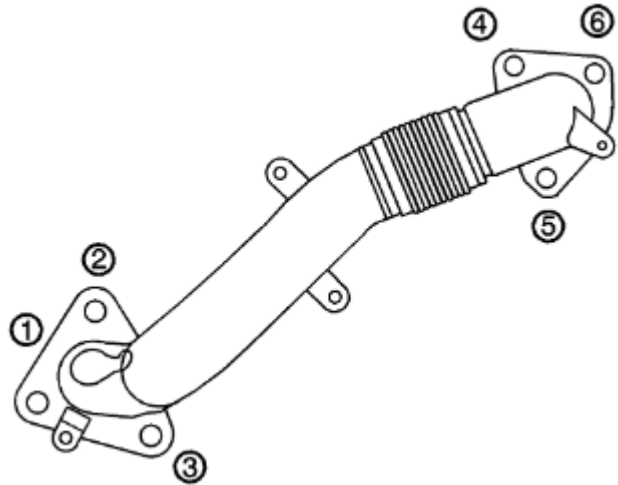

Fig. 22: Driver's side up-pipe fasteners
- e) Remove the bolts retaining the driver's side up-pipe to the turbocharger and exhaust manifold in the sequence shown in Fig 22. Remove the up-pipe and gaskets.